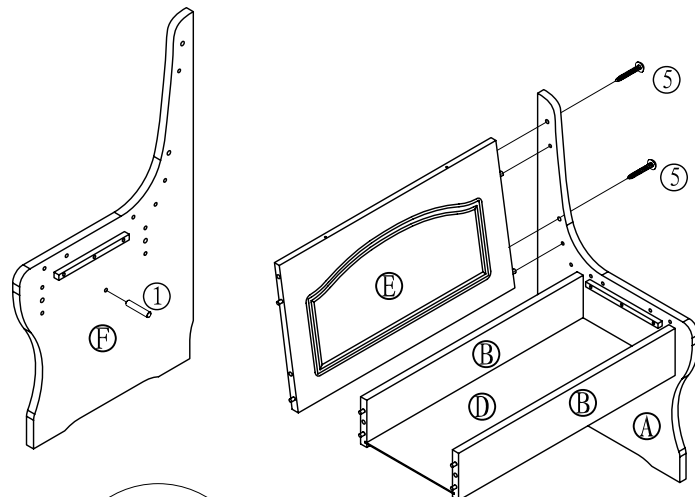

FIGURE 2.3
- 2.3 WITH MIDDLE LEG #A PLACED ON FLOOR ATTACH SINGLE BENCH BACK REST #E TO MIDDLE LEG #A. USING PRE-DRILLED HOLES AS GUIDE, USE (02) SCREWS ⑤ AND A PHILLIPS HEAD SCREWDRIVER (NOT PROVIDED) TO SECURE, AS SHOWN IN FIGURE 2.3